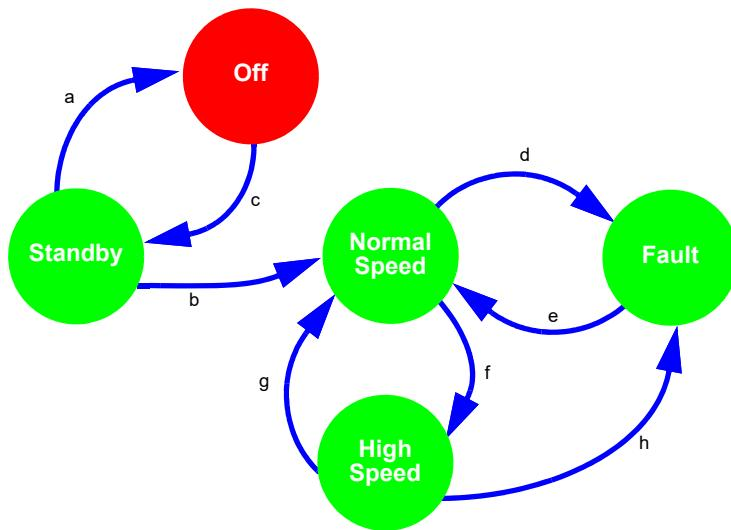
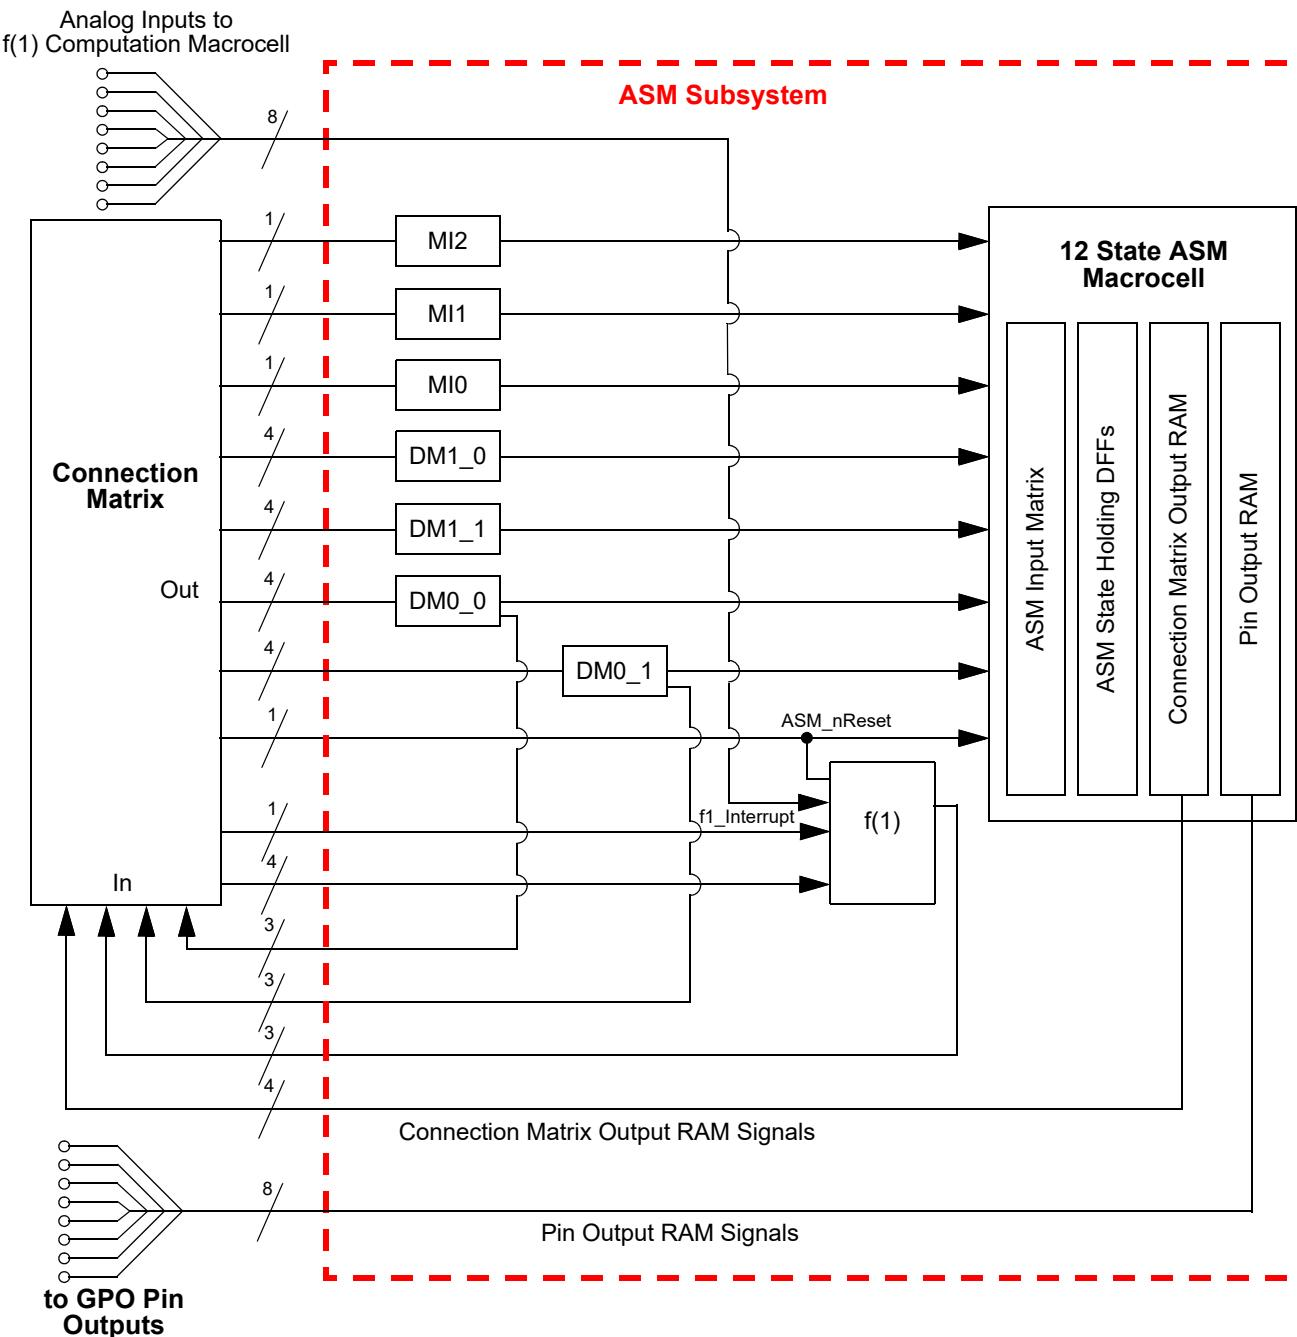

Figure 88: Asynchronous State Machine State Transitions
Figure 89: Connection Matrix to ASM Subsystem
The Asynchronous State Machine (ASM) Subsystem is designed to allow the user to create state machines with between 2 to 12 states. The user has flexibility to define the available states, the available state transitions, and the input signals (a, b, c ...) that will cause transitions from one state to another state, as shown in Figure 88.
- Dynamic Memory (DM) Macrocells – Section 16.
- f(1) Computation Macrocell – Section 17.
- Matrix Interface (MI) Macrocells Section 18.
The ASM Subsystem has a total of 25 digital input signal lines, as shown in Figure 89, which all come from the Connection Matrix outputs. Of these 25 digital input signals, 3 are user selectable inputs going directly from the Connection Matrix to the three Matrix Interface (MI) macrocells. There are a total of 16 input signals that go to the DMx_X macrocell, four per macrocell. There is 1 ASM_nReset input that is for driving a state transition in both the ASM macrocell and the f(1) Computation Macrocell to an Initial/Reset state. It is possible to use one macrocell only (MI or DM) for state to state transitions. There are 4 digital input signals coming from the Connection Matrix to the f(1) Computation Macrocell. There is also 1 dedicated Interrupt input signal to the f(1) Computation Macrocell that will halt any active operations and transfer control back to the ASM macrocell.
The ASM Subsystem has a total of 21 digital output signal lines, as shown in Figure 89. There are a total of 4 output signals which go to the Connections Matrix inputs, and from there can be routed to other internal macrocells or pins. The 4 outputs are user defined for each of the possible 12 states. There are a total of 8 output signals which go directly to the 8 GPOs. The 8 outputs are user defined for each of the possible 12 states. Each of the three macrocells, DM0_0, DM0_1 and f(1) have three output signals that go to the Connection Matrix.
The GPAK Designer development tools support user designs for the ASM Subsystem at both the physical level and logic level. Figure 88 is a representation of the user design at the logical level, and Figure 89 shows the physical resources inside the various macrocells in the ASM Subsystem. To best utilize this subsystem, the user must develop a logical representation of their desired state machine, as well as a physical mapping of the input and outputs required for the desired functionality.